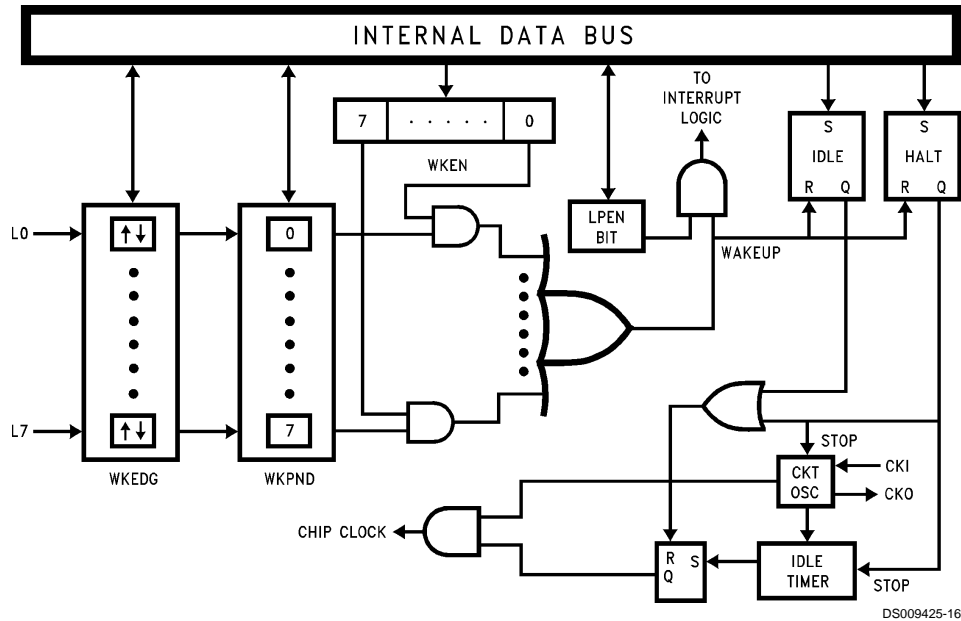

FIGURE 11. Multi-Input Wake Up Logic
*Figure 11* shows the Multi-Input Wakeup logic.